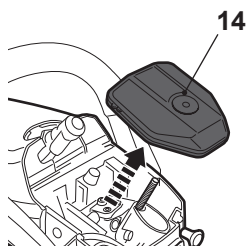

Fig. 55
- > Remove the air filter (14) (Fig. 55) and split it into its two halves.
- > Brush petrol into the mesh to remove the dirt. Reassemble the air filter (14), pressing on the rims until they 'click' together.
- > Attach the air filter cover (13) and secure it with the screw (12).